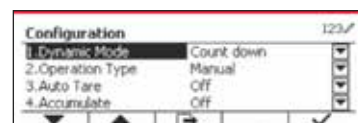

Figure 76
1. Press the button corresponding to the  icon to enter Configuration Menu. (See Figure 76)